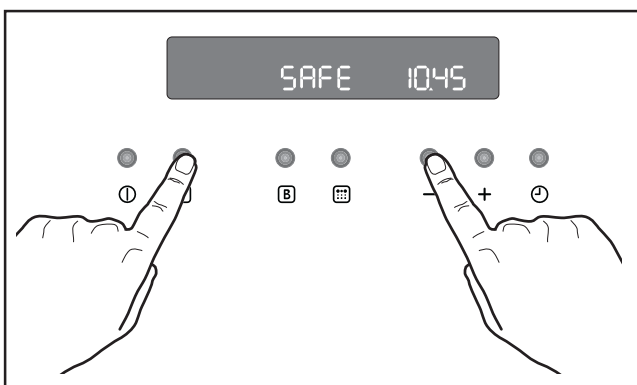

Fig. 15
1. Turn off the oven by pressing button (I).
2. Press buttons (□) and “-” at the same time and keep them pressed for about 3 seconds. An acoustic signal will be emitted and the indication ‘SAFE’ will appear in the display (Fig. 15).